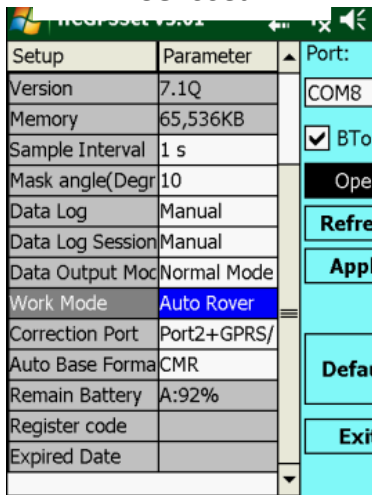

Figure5.3-7
-Use the **HCGPSSet** set the work mode as **Figure5.3-7**